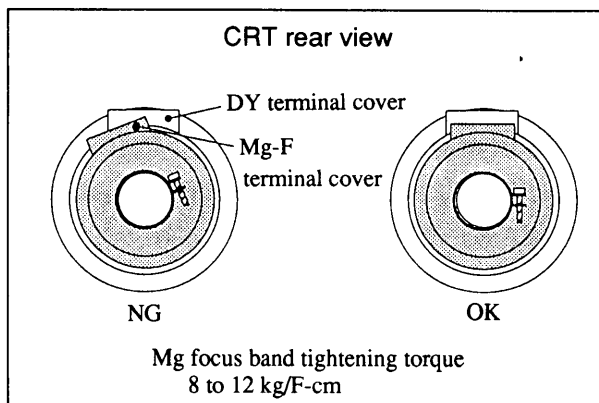

Figure 4
13. Adjust position of the green Mg focus until it is aligned with the green DY as shown. (Refer to Figure 4.)